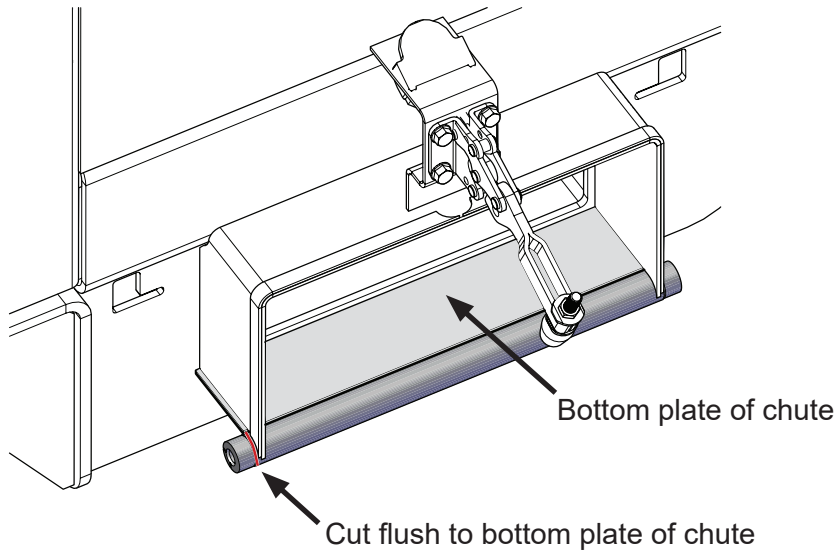

Figure 5
6. Using a permanent marker or machinist's marker, mark cutting lines on both chute side tubes to cut flush with the bottom plate of the chute. These tubes are where the door hardware secures the door to the chute. Figure 5 shows one side chute tube with cutting line; the other side chute tube is not as visible for clarity.